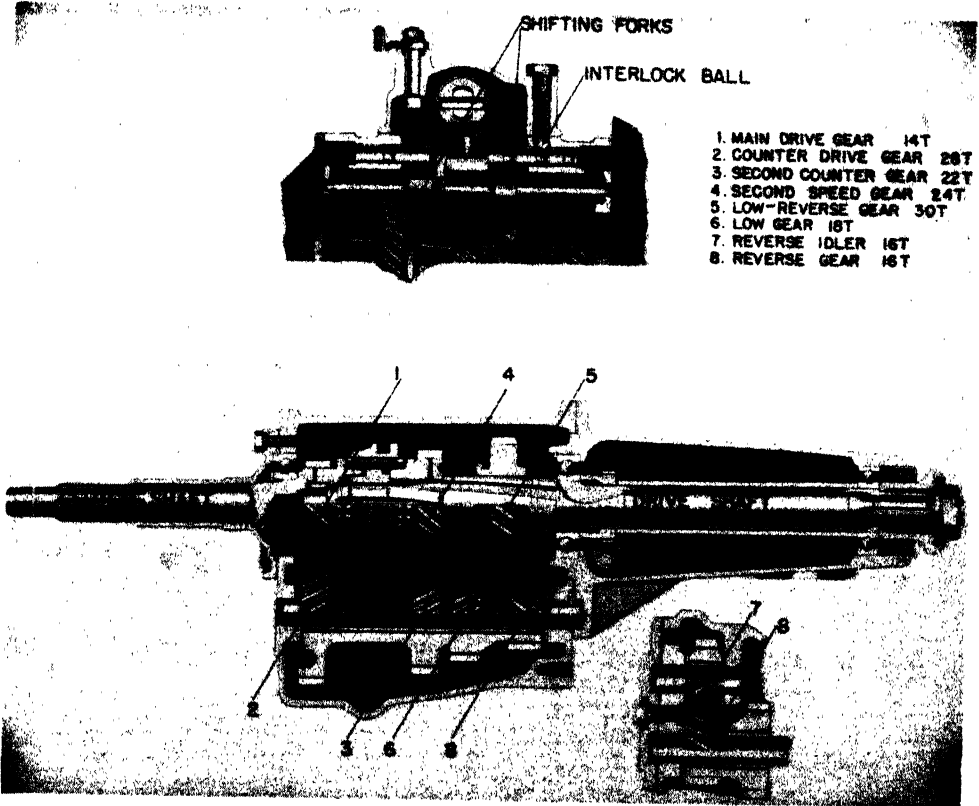

FIG. 142. SYNCHROMESH TRANSMISSION (Courtesy, Chrysler Corporation.)
7. Fig. 142 shows the synchromesh transmission of a modern automobile.
8. a) Find the transmission ratio when the gears (Fig. 142) are in low speed.